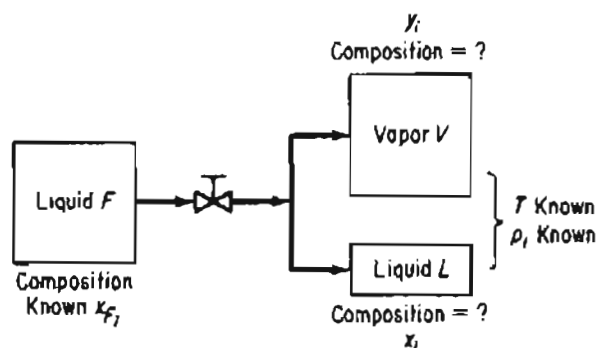

Figure 19.9 Flash vaporization with vapor and liquid in equilibrium.
3. To calculate the amount of the respective vapor and liquid phases that evolve at equilibrium when a liquid of known composition x_{Fi} flashes (**flash vaporization**) at a known temperature and pressure, you use Equation (19.5a) together with a material balance. Figure 19.9 illustrates the open, steady-state process.